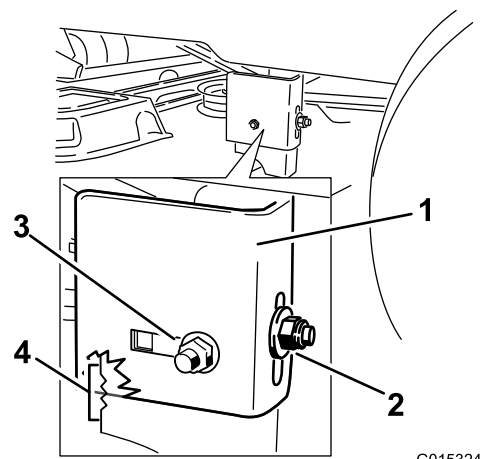
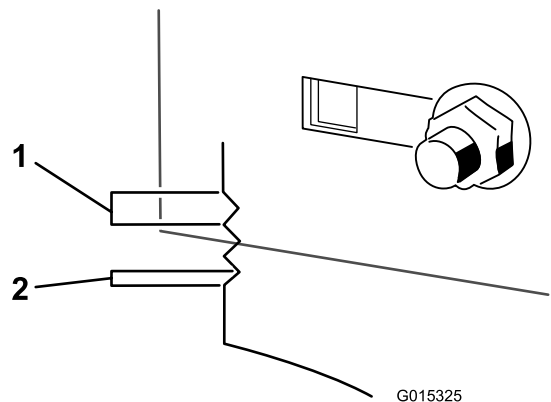

Figure 62
Figure 63
- Loosen the rear locking nut on the hanger bracket (Figure 62).
- Loosen the side locking nut on the hanger bracket just enough to allow the hanger to be adjusted (Figure 62). Use the notches on the welded bracket to measure the amount of adjustment. Each notch surface is equivalent to 0.25 inch, while a single side is 0.125 inch (Figure 63). Adjust the height of the mower deck to the desired height.
- Stop the deck at the adjusted position and tighten the side locking nut on the hanger bracket to hold the new position (Figure 62). Tighten the rear locking nut on the hanger bracket.